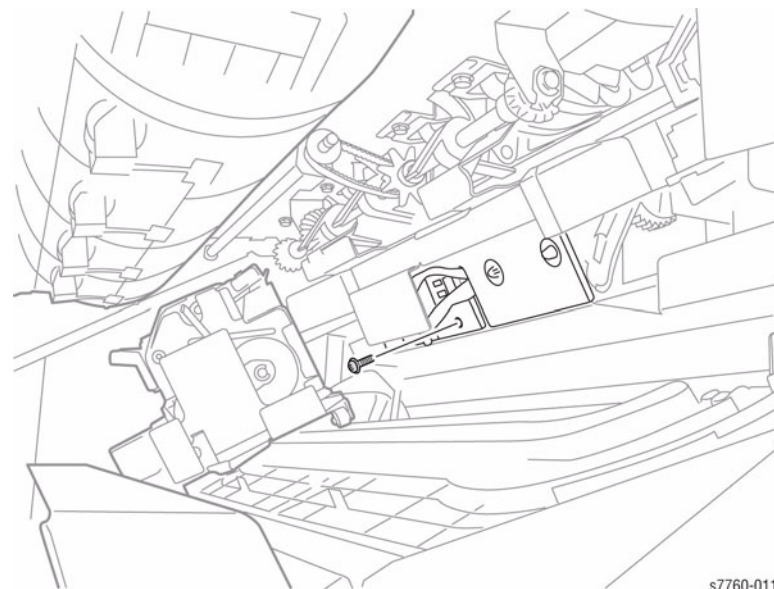

Figure 1 Removing Screw Securing the Compiler Tray
3. Remove 1 screw securing the Compiler Tray (Figure 1).